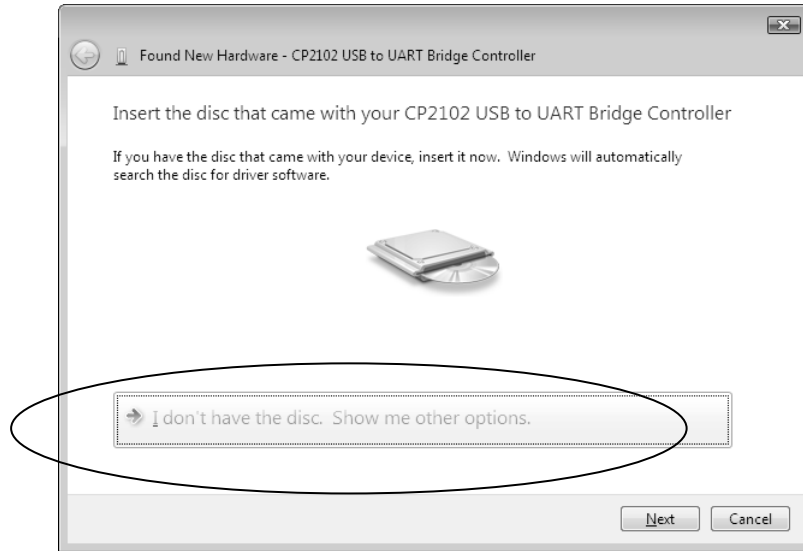

Fig. 49 New Hardware search wizard
(12) After the installation has been completed, the search wizard of new hardware is started automatically and the screen shown in Fig.49 appears. Select **"I don't have the disc. Show me other options"**.